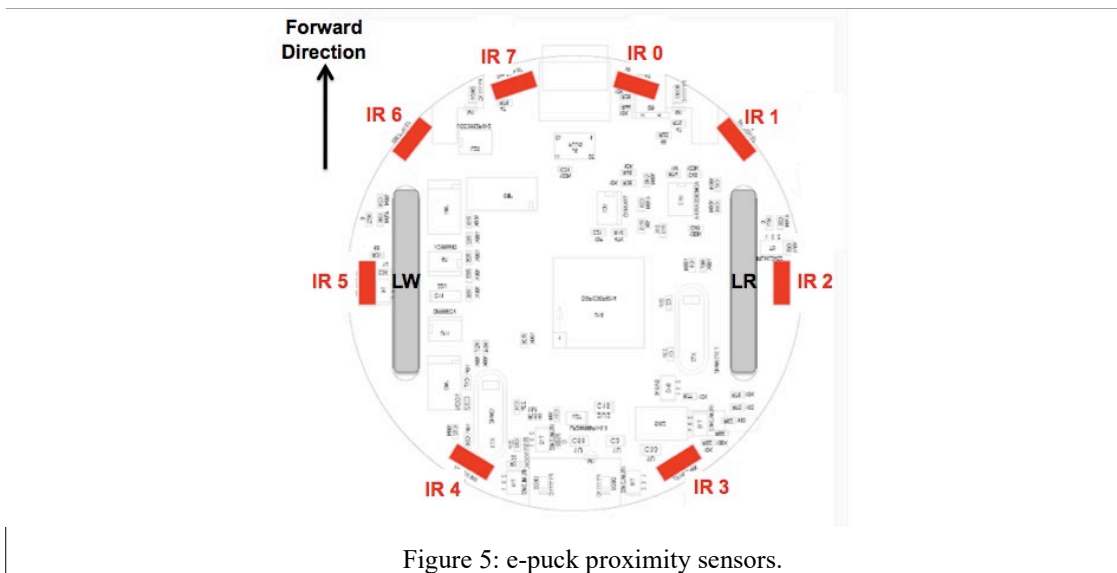

Figure 5: e-puck proximity sensors.
13. **(Q):** What is the influence of the parameter, say,  $\alpha_{\text{left},0}$  on the speed of the left wheel? *Hint: explain what happens if  $\alpha_{\text{left},0}$  is large or small when an obstacle is detected by the proximity sensor `ps0` (recall Figure 5).*
14. **(I):** Modify the parameters of the controller `e-puck_braitenberg.c` so that you achieve these behaviors (see note in code and refer to Fig. 5 for sensor placement):